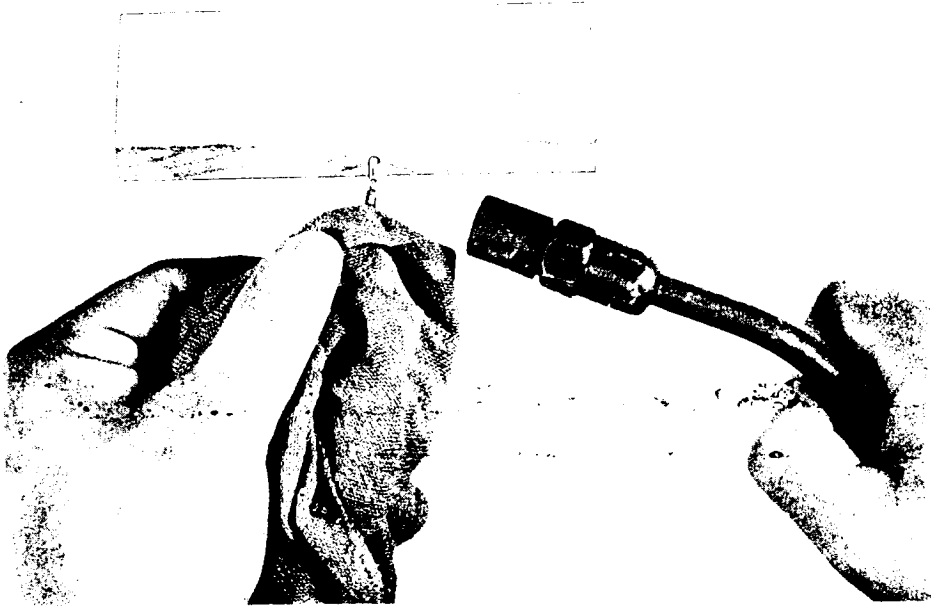

Figure 5-1. Protecting Wire Insulation from Heat
- (1) Flux in same manner as in dip method.
- (2) Protect wire insulation from burning by a suitable shield or by wrapping with wet rags, as in figure 5-1.
- (3) Heat wire with torch until flux bubbles, then add small amount of silver solder* to fluxed area when solder has flowed between the strands.
5-9. Apply heat, either torch or resistance method, (if torch, protect the wire insulation with a wet cloth, figure 5-1). At the same time apply silver solder wire and test for solder flow. When solder flows, apply only enough to attain a desirable joint. Remove heat, but avoid movement of joint until solder is solidified.